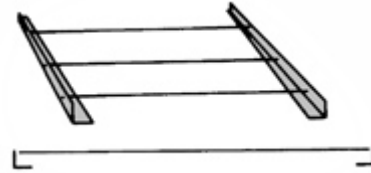

FIG. 8 - Stretch a tight line from the top edge of the wall angle on all sides of the room at each position where the main 'T's are to be placed.
- Locate the position of each main 'T' by stretching a tight line *dori* from the top edge of the wall angle on all sides of the room at each position where the main 'T's are to be placed (Fig. 8).